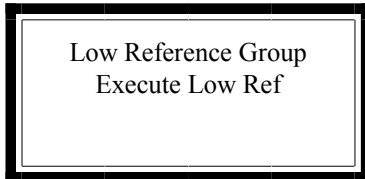

Figure 9a: Executing Low Ref:
3) Toggle the "Next" key until you reach the "Execute Low Ref" Menu, Figure 9a, and press the MODify key, and follow the two remaining prompts. (Continue, Save)